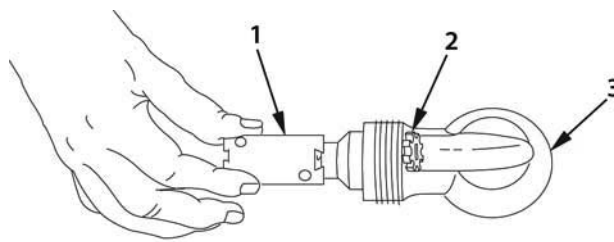

Figure 5. Protrusion Test.
4. Install firing pin (Figure 5, Item 2) in breech plug (Figure 5, Item 3) and check protrusion using striker protrusion gage (Figure 5, Item 1).
5. Hold striker protrusion gage (Figure 5, Item 1) over the firing pin (Figure 5, Item 2) with the gage held perpendicular to, and in contact with, the front face of the breech plug (Figure 5, Item 3).
6. Replace firing pin (Figure 5, Item 2) if it clears low notch on gage or does not clear high notch. Repeat protrusion test on new firing pin.
7. Replace breech plug (Figure 5, Item 3) if defective or damaged. See WP 0024.